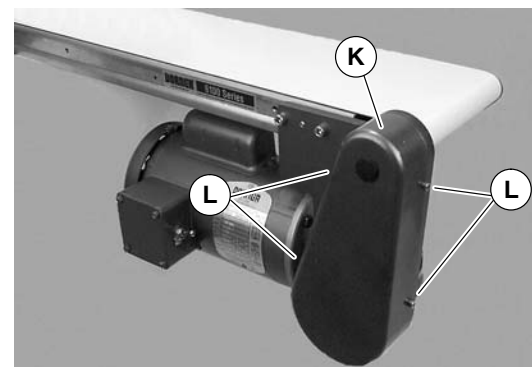

Figure 17
10. Install cover (K of Figure 17) with four (4) screws (L). Tighten to 35 in-lb (4 N-m).
1. Remove four (4) screws (L of Figure 17) and remove cover (K).
4. Install cover (K of Figure 17) with four (4) screws (L). Tighten to 35 in-lb (4 N-m).
6. Install cover (K of Figure 17) with four (4) screws (L). Tighten to 35 in-lb (4 N-m).